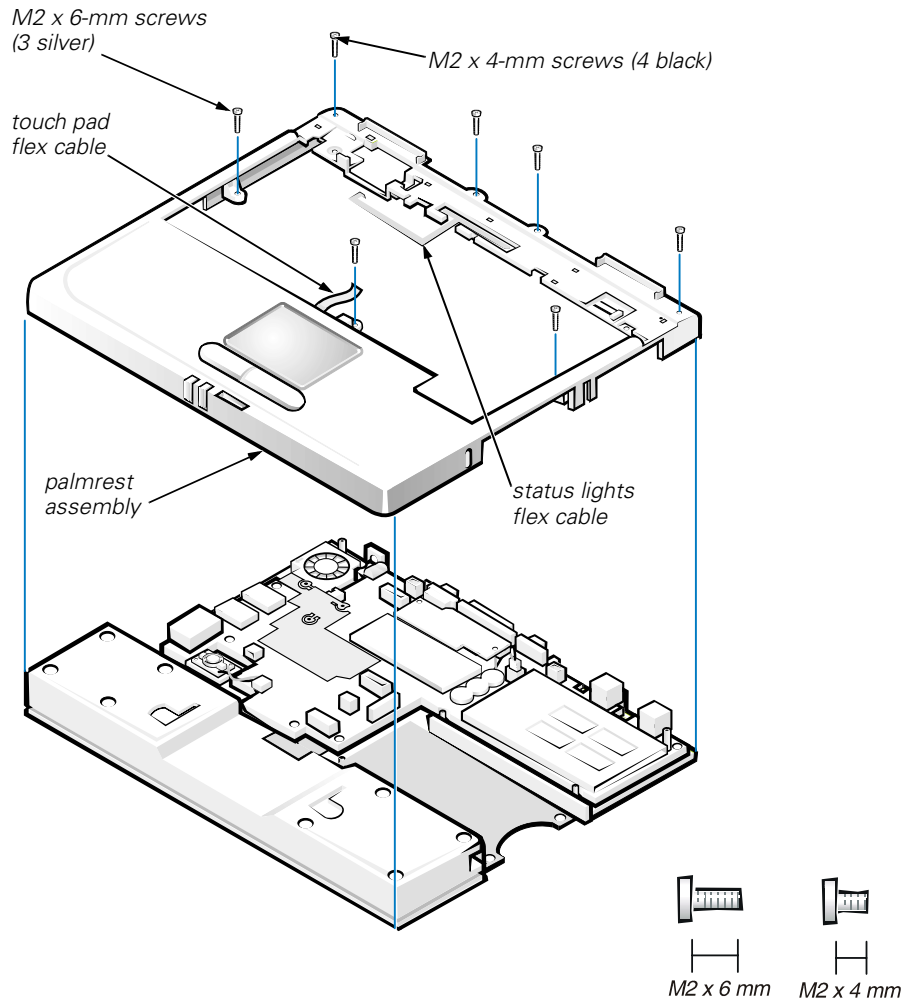

Figure 15. Removing the Palmrest Assembly Top Screws
7. Remove the four black M2 x 4-mm screws across the top of the computer (see Figure 15).
8. Remove the three silver M2 x 6-mm screws in the keyboard-assembly area that secure the middle of the palmrest assembly to the bottom case (see Figure 15).
2. Reinstall the three silver M2 x 6-mm screws in the keyboard-assembly area that secure the middle of the palmrest assembly to the bottom-case assembly (see Figure 15).
3. Reinstall the four black M2 x 4-mm screws that secure the top of the palmrest assembly to the bottom-case assembly (see Figure 15).